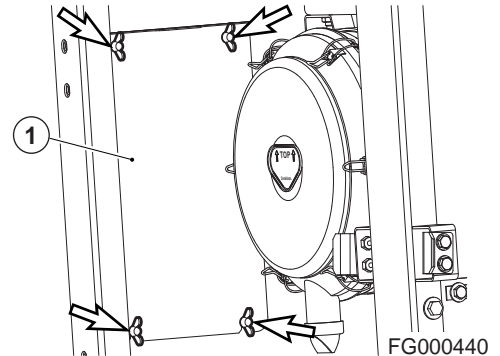

Figure 91
1. Open the door in the left front of the machine, then remove four wing bolts and washers, and access cover (1, Figure 91).